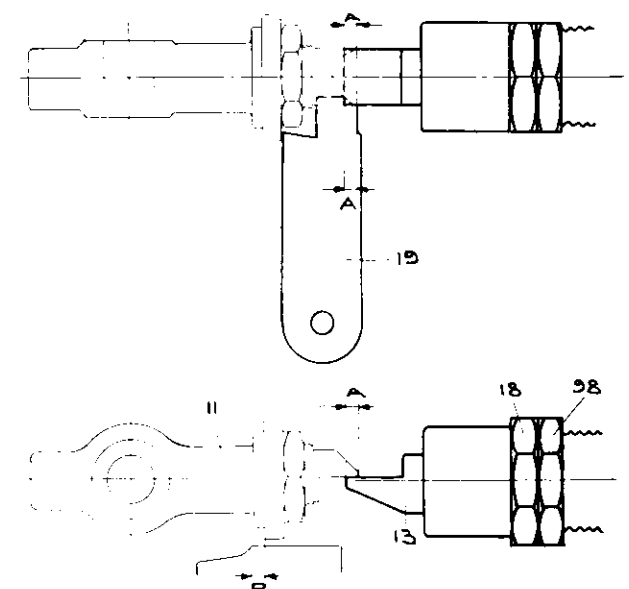

Fig. 5.
The pump regulating lever (116 fig. 3) is placed at the top position on the segment and the engine turned over so that the regulator weight (11) comes to its extreme inner position. The striking end of the weight should then be lifted up and then rest on the flat end of the plunger (fig. 5). The gauge (19) is inserted with its one edge against the edge of the pump plunger (13). If the stroke is of correct length, i. e. equal to the dimension A on the gauge, the striking edge of the regulator weight should then be exactly in line with the other edge of the gauge. The adjustment is made by means of the nut 18, which then is locked fast by the lock nut 98. The distance P is different for different sizes of our engines and differs within the limit of $\frac{1}{8}$ " to $\frac{1}{4}$ ".